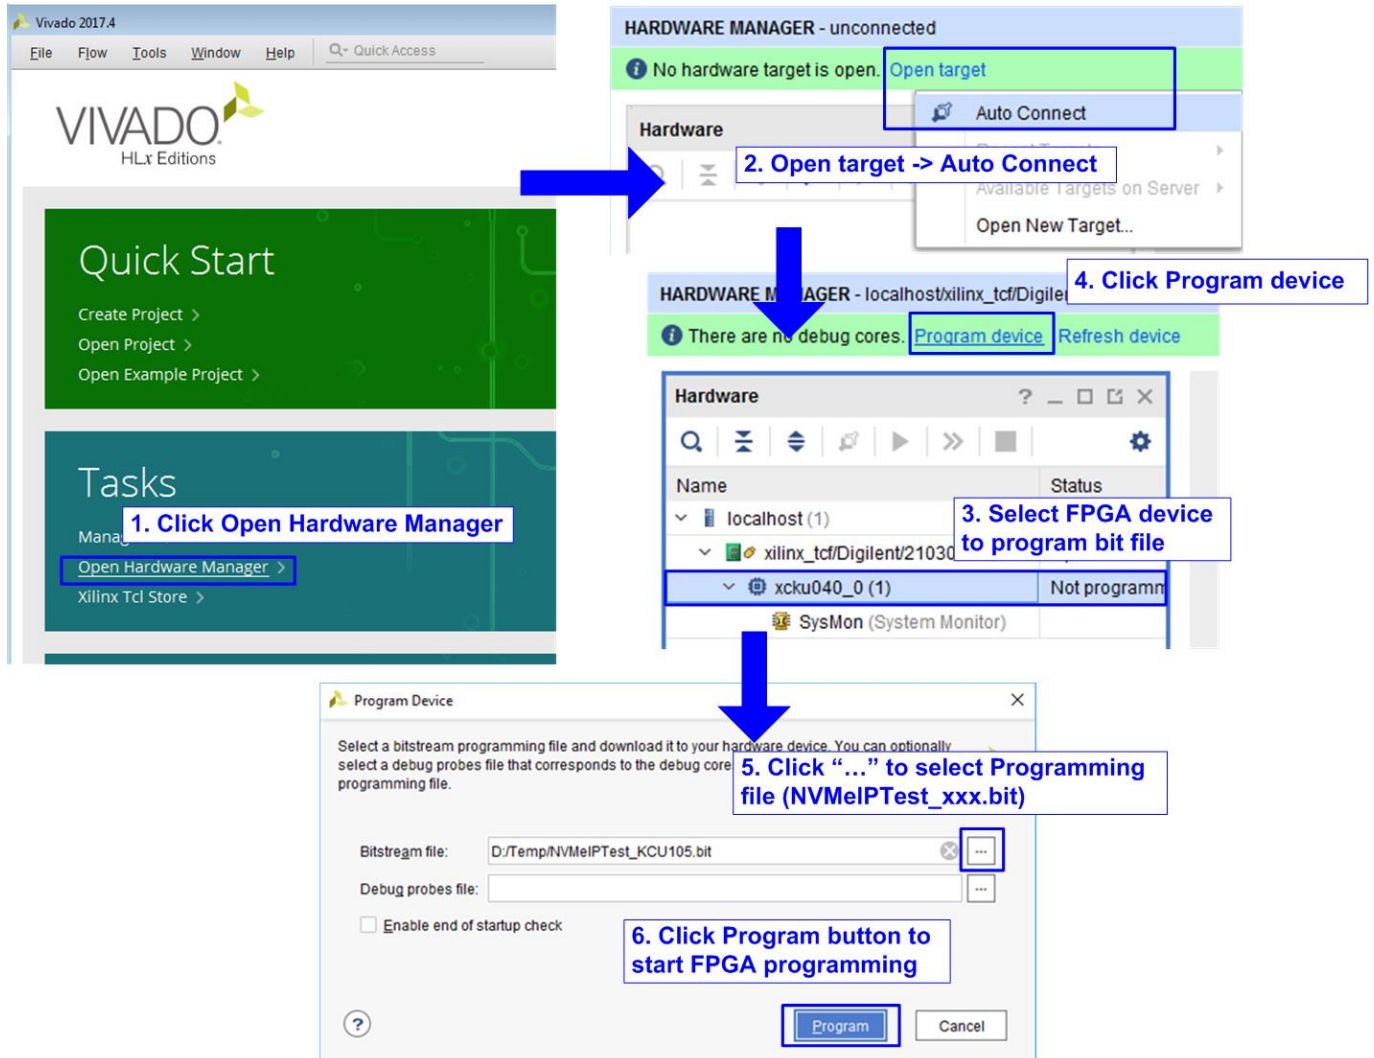

Figure 2-8 Program FPGA by Vivado
- a) For AC701/VC707/KCU105/VCU118, configure FPGA by using Vivado, as shown in Figure 2-8.